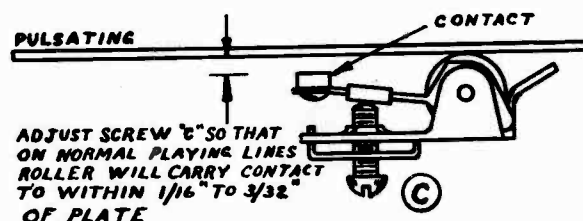

FIG. 8
Place a record on turntable and tone arm in playing position about halfway in on playing lines of the record. In this position the contact operated by the rubber roller on the trip arm should be carried to within $\frac{1}{16}$ to $\frac{3}{32}$ of an inch of the pulsating plate as the roller moves towards center of changer. (See Figure 8). If contact does not have this spacing as the roller moves and pulls contact up, then adjust screw (C) Figure 8 until correct spacing is obtained.